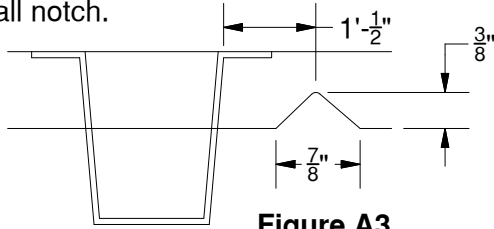

Figure A3
- 9. Modify the bed flange.** Some models of trucks will allow the cross members to slide between the frame and bed without modification. If this is not possible, a small notch needs to be made in the flange on the driver side of the truck, see Figure A3. Locate the front truck bed cross member in the wheel well. Measure from the back of the cross member and make a mark at 1-1/2". This will be the center point for the notch that is needed. Mark and cut a 7/8" wide by 3/8" tall notch.
- 1. Place rear cross member.** The mounting kit is supplied with two angle cross members. The rear cross member has three notches and will be installed first. Slide the rear cross member between the frame and bed on the driver's side. If necessary use the notch cut into the bed flange, shown in Figure A3. Make certain the leg of the angle with the oval holes is facing toward the cab. After sliding the angle in about half way it may need to be guided onto the other frame from the underside the truck. At this point the angle should span between both frame rails and in front of the shock bracket on the passenger side. Next using the notch over the shock bracket for clearance, roll the angle iron over the bracket while sliding it toward the rear. It is important to hold the driver's side of the cross member upward against the bed floor and forward against the bed cross member. Continue to slide it back until it is about four inches behind the four inch hole that has been drilled in the bed.